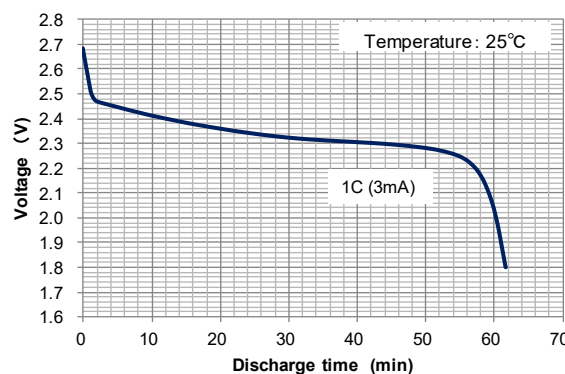

Fig.3 : 1C discharge characteristics
- Figure 3 shows the discharge characteristics of CT04120. CT04120 has flat discharge characteristics around at 2.3V. We recommend to set UVP to less than 2.2V, more than 1.8V. Nominal capacity can be provided at OVP=2.7V, UVP=1.8V. About 90% of capacity can be provided at OVP=2.7V, UVP=2.2V.